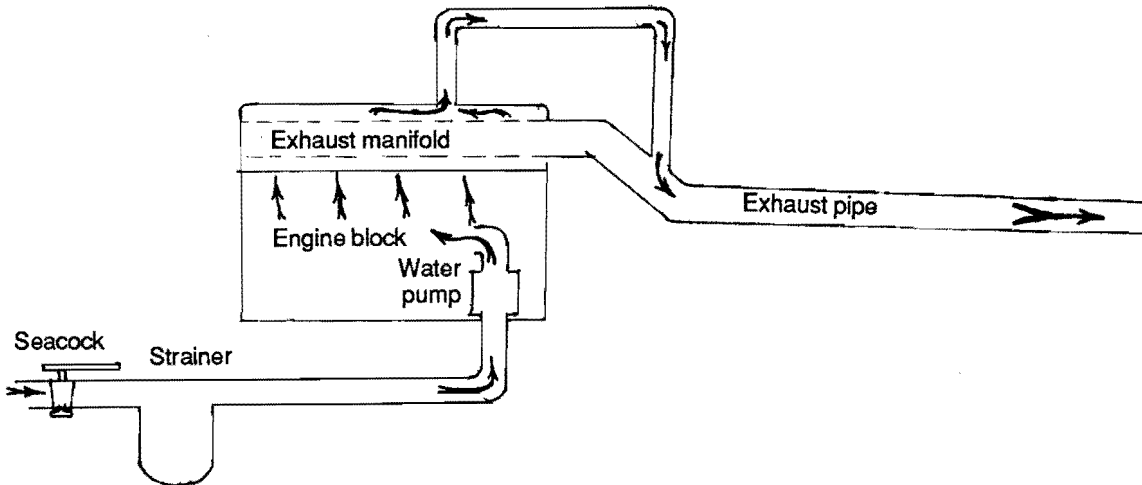

Figure 6-1. Raw-water cooling.
1. In raw-water-cooled engines, after coming out of the water jacket around the exhaust manifold, the engine cooling water is sprayed into the exhaust pipe and mixes with the exhaust gases (Figure 6-1). As the water is sprayed into the pipe, much of it evaporates, rapidly cooling the gases. This sharp reduction in temperature produces a corresponding fall in pressure, which reduces the back pressure in the system and slows down the exiting gases. The reductions in pressure and speed have a considerable silencing effect.